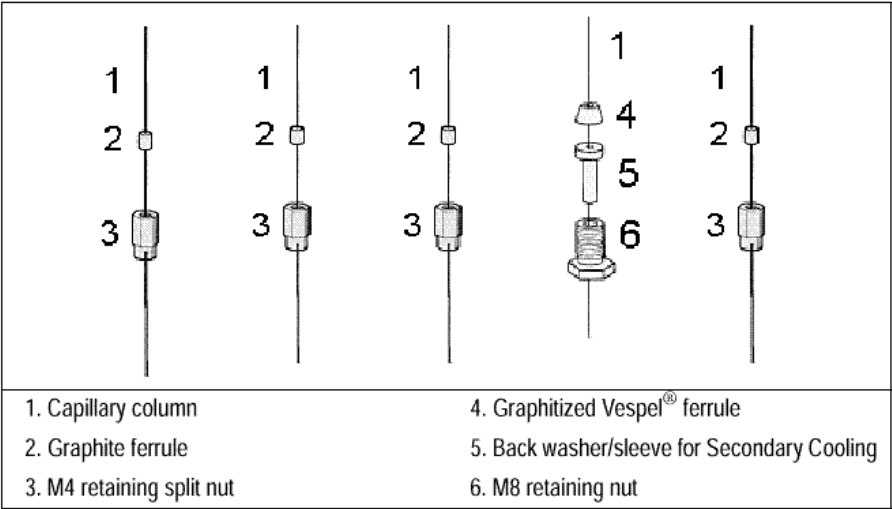

Figure 2-2. Injector and Detector base body connections
Figure 2-2 shows when to use graphite and graphitized Vespel ferrules and retaining nuts according to injectors and detector base bodies.
1. Insert the M8 retaining nut, the secondary cooling sleeve and the Vespel ferrule onto the capillary column (or pre-column, if used). Refer to Figure 2-2 for the correct assembly order.